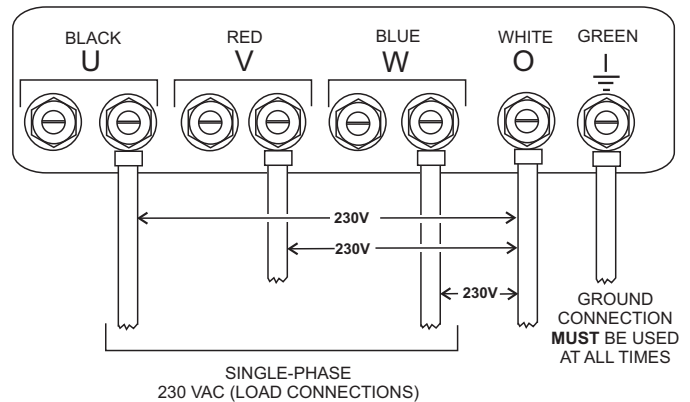

Figure 29. UVW Terminal Lugs 1Ø-230V Connections
2. Connect the load wires to the UVW terminals as shown in Figure 29.